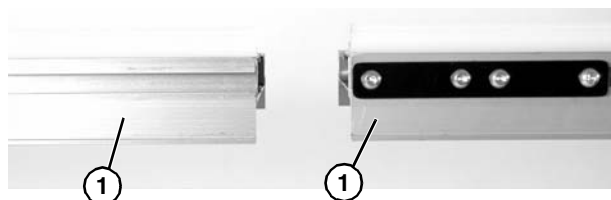

Figure 5
1. Locate conveyor sections (**Figure 5, item 1**).